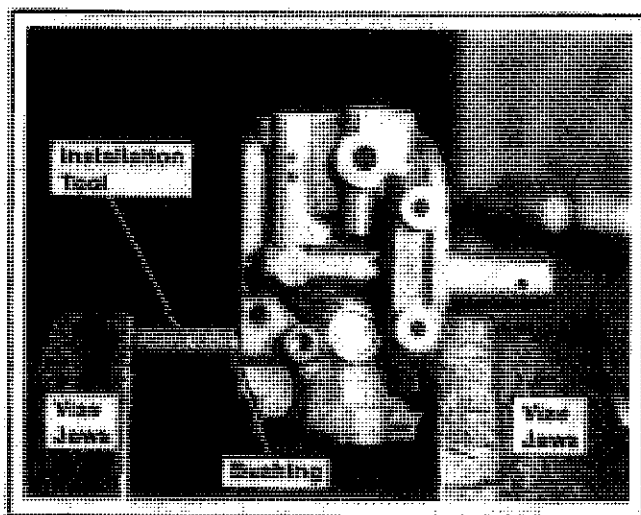

Figure 6A-11. Installing Throttle Shaft Bushings.
3. Coat the outside surface of throttle shaft bushing with Loctite from kit. Slip bushing over shaft. Using installation tool from kit and vise, press bushing into counterbore until it bottoms in carburetor body. Refer to Figure 6A-11.